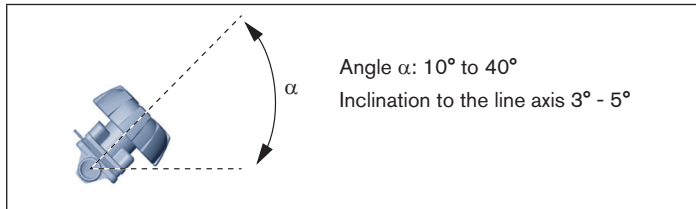

Fig. 4: Installation position for self-drainage of the housing
- Install housing inclined by angle $\alpha = 10^\circ$ to 40° to the horizontal (see Fig. 4). Forged and cast housings feature a mark which must face upwards (12 o'clock position).